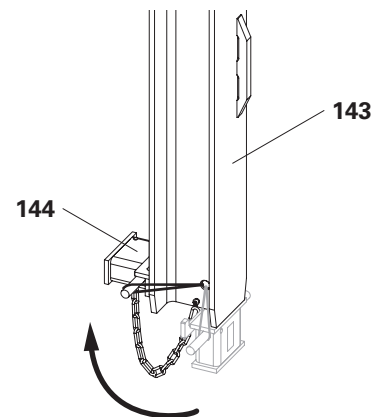

Fig. C6.06
1. Fold up the spacer (144) at the end of the Climbing Rail ACS (143). (Fig. C6.06)